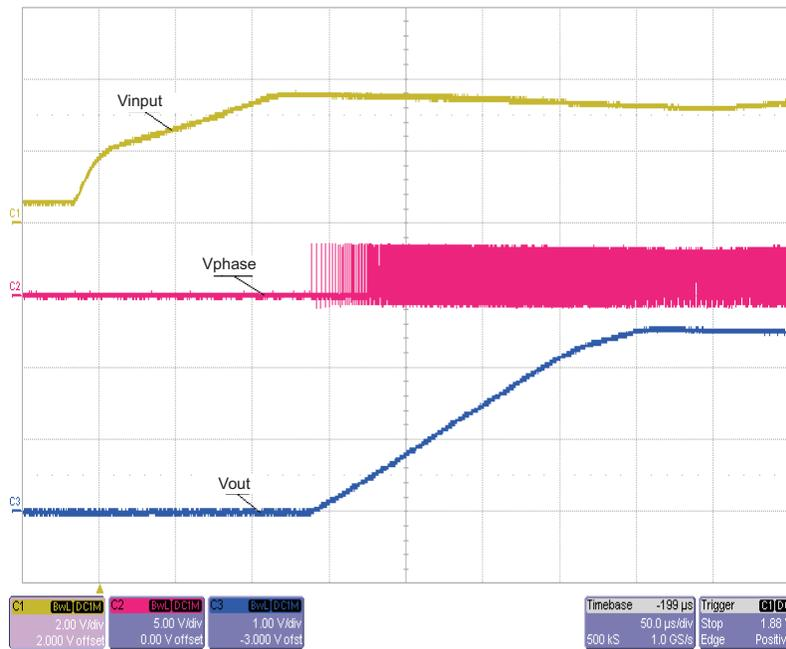
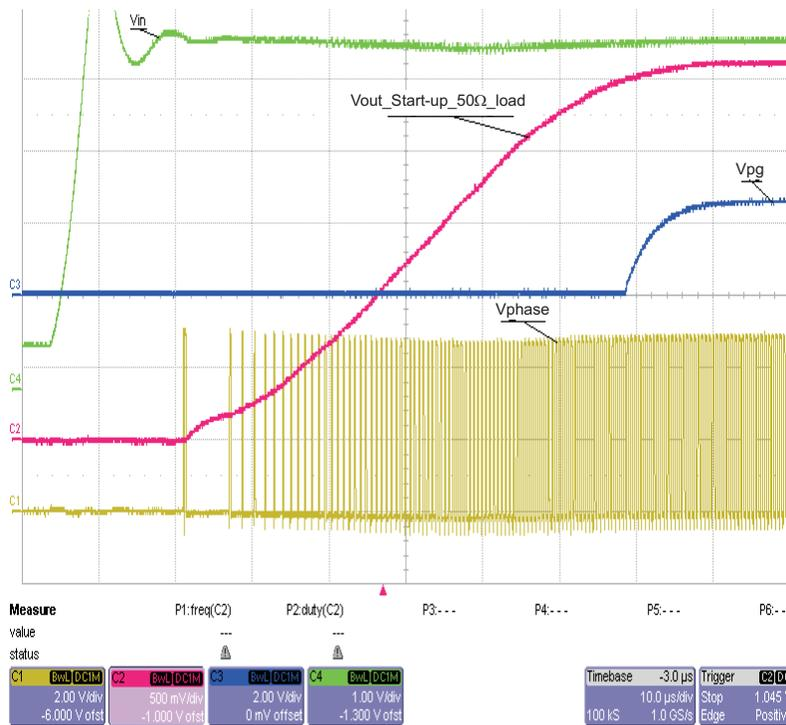

Figure 4. Start-Up in PWM/PFM Mode. Vin = 4 V, Vout = 2.5 V, Iout = 0.5 A; CH1 = Input Voltage; CH2 = Phase; CH3 = Output Voltage
Figure 5. Start-Up in PWM/PFM Mode. Vin = 5 V, Vout = 2.5 V, Iout = 0.5 A; CH4 = Input Voltage; CH1 = Phase; CH2 = Output Voltage; CH3 = PG
6. Disconnect positive lead of input supply. Set CH1 to 2 Vdc/div, CH3 to 1 Vdc/div, and time to 50  $\mu$ s/div. Set trigger to CH1, trigger level to 2 V, and arm single-sequence trigger. Hot-plug input supply. See Figure 4 for a typical power up. Figure 5 shows the timing of the PG pin applying the input hot plug.